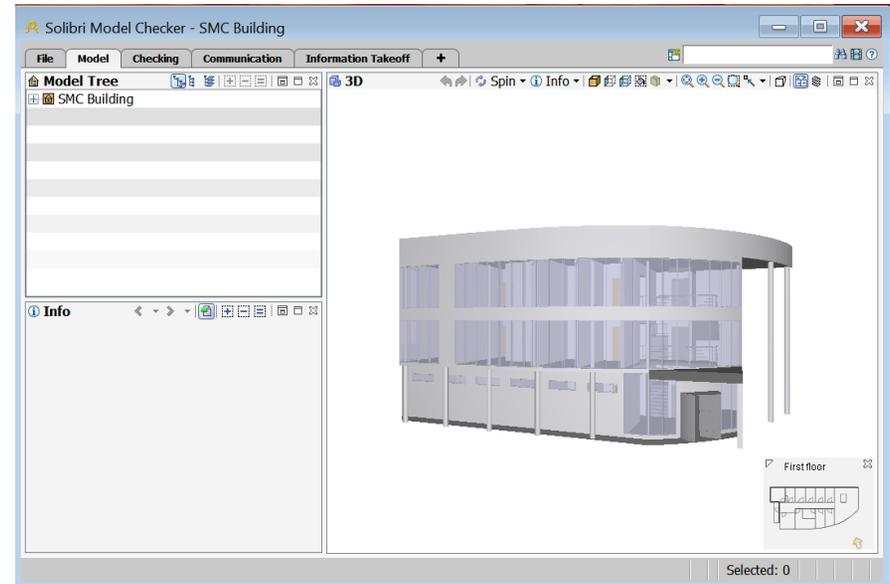

Figure 10 SMC User interface showing the Model layout
- 4) After the file has been opened, you will see the model in the user interface. Note: You are now operating in the **Model Layout View** (see Figure 10).